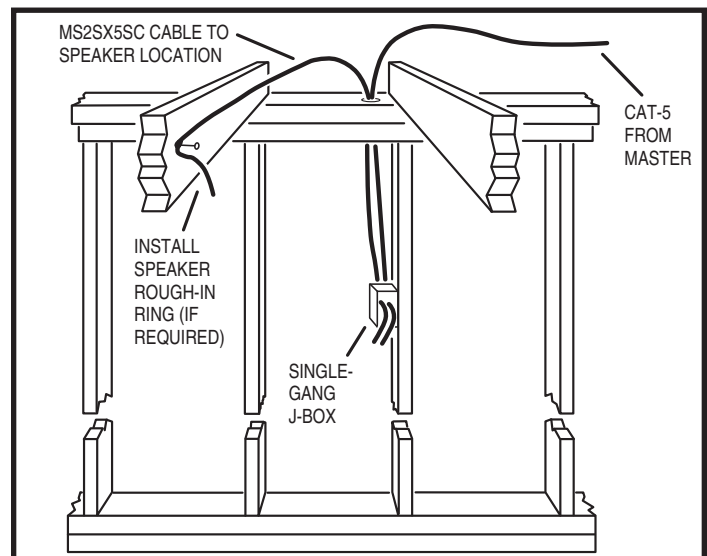

Figure 11. Mono Speaker Installation
2. From each volume control J-box location, route MS2SX5SC cable to the speakers location (see Figure 11). Secure the cable to avoid drywall damage.